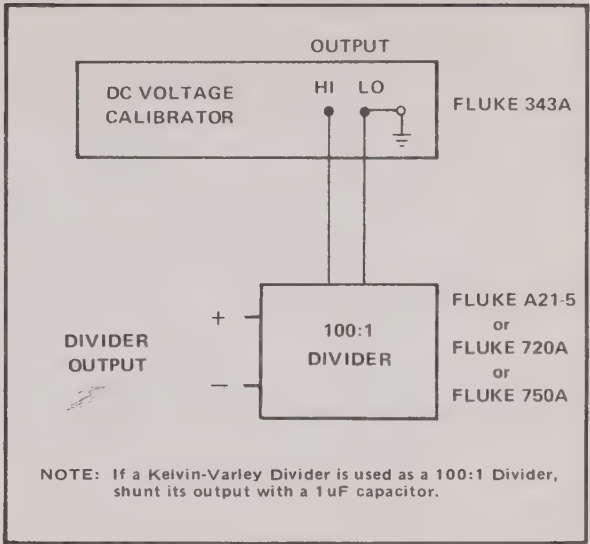

Figure 4-2. VOLTAGE DIVIDER—CALIBRATOR CONNECTION
- Connect a voltage divider to a dc voltage calibrator as in Figure 4-2. (See Table 4-1 for specifications.)
- a. Complete the equipment connections shown in Figure 4-2, by doing the following: